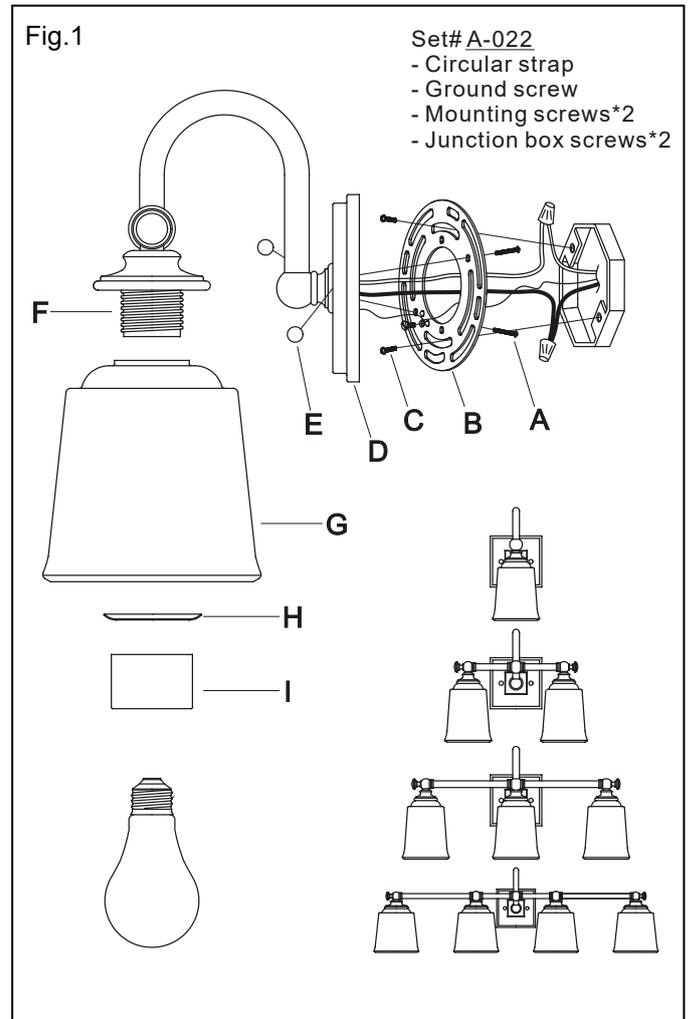

Fig.2
### CONNECTING THE WIRES (Fig. 2)
4. Connect the electrical wires as shown in Fig. 2. Making sure all wire connectors are secured. If your outlet box has a ground wire (green or bare copper) connect fixture's ground wire to it. Otherwise, connect fixture's ground wire directly to the circular strap using green screw provided.